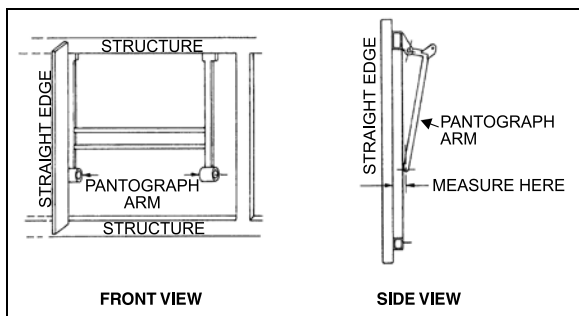
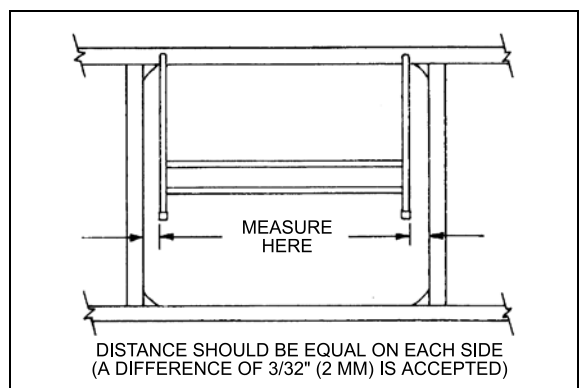

FIGURE 58: PANTOGRAPH DOOR ADJUSTMENT 18062
FIGURE 59: PANTOGRAPH DOOR ADJUSTMENT 18063
Measure distance between a pantograph arm end and a straight edge resting on structure. Repeat procedure for the other arm. The distance on each side should be equal. If not, bend appropriate arm until desired measure is obtained (Figure 58 & Figure 59).
5. When the door is straight, remove the 2x4's and check door operation and fit. A difference of $3/32$ " (2mm) between both sides is accepted (Figure 59).